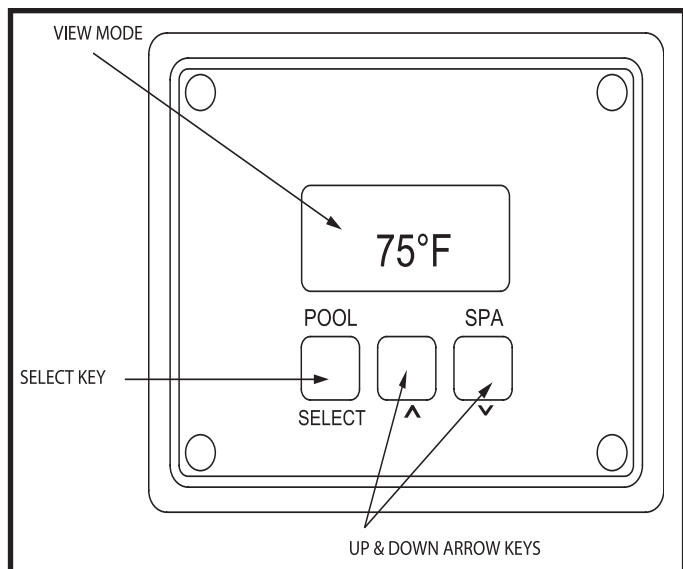

FIG. 42A Select Key, Up Arrow and Down Arrow Keys
The electronic temperature control is located on the right front side of the pool heater. Three programming keys are provided to adjust the temperature set point and differential values and to control the display. The three keys are: the **Select** key, **Up** arrow key and **Down** arrow key (Figure 42A).
13. After a period of 10 seconds with no activity to adjust control settings, the display will revert back to normal display of water temperature (Figure 42A).